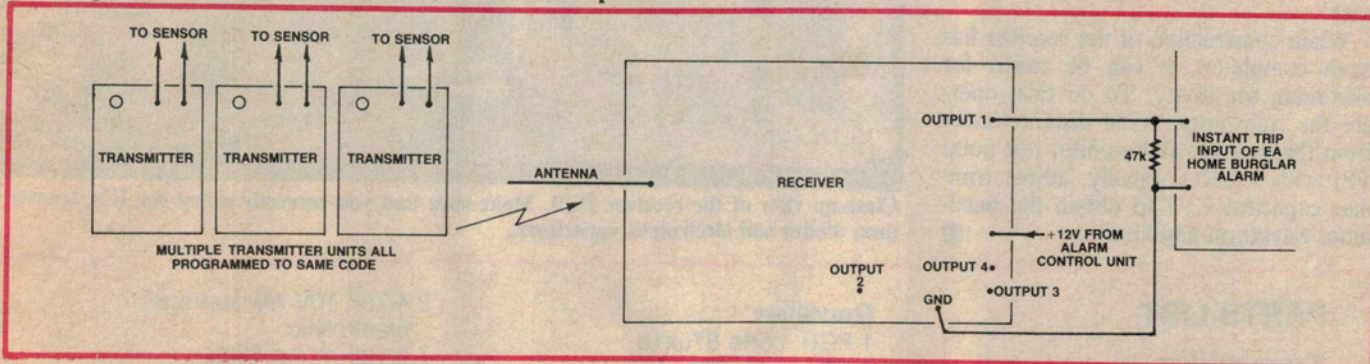

Fig. 5: how to use UHF Remote Switch to trigger the EA Home Burglar Alarm. Some alarm systems may require triggering via the external relay board.
**Output 1** - this output is normally high and switches low during transmission. If you want to trip a house alarm, this is the output to use. It can either be used to trigger the alarm via an external relay (see Fig.5) or connected direct to one of the alarm inputs.
Fig. 6: a separate transmitter and receiver are required to switch the EA Home Burglar Alarm on and off. They must be programmed to a different code than those in Fig. 5